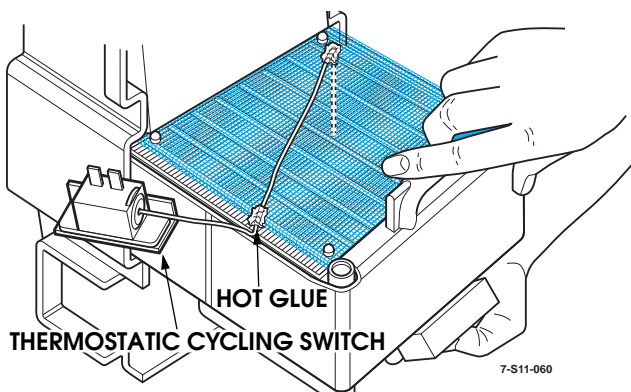

Figure 11-106: Evaporator Removal
21. Remove evaporator from unit (Figure 11-106).
22. Carefully remove capillary tube from evaporator, noting positioning in the evaporator fins (Figure 11-106).
4. Position thermostat capillary tube in the same location it was removed from on the original evaporator. It will be necessary to hot glue the tube near the exit hole (Figure 11-106).